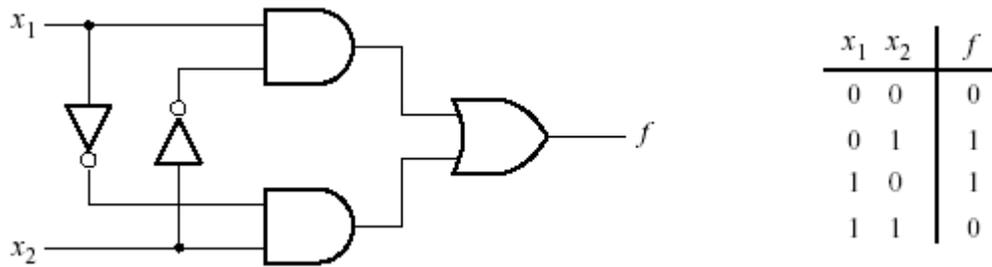
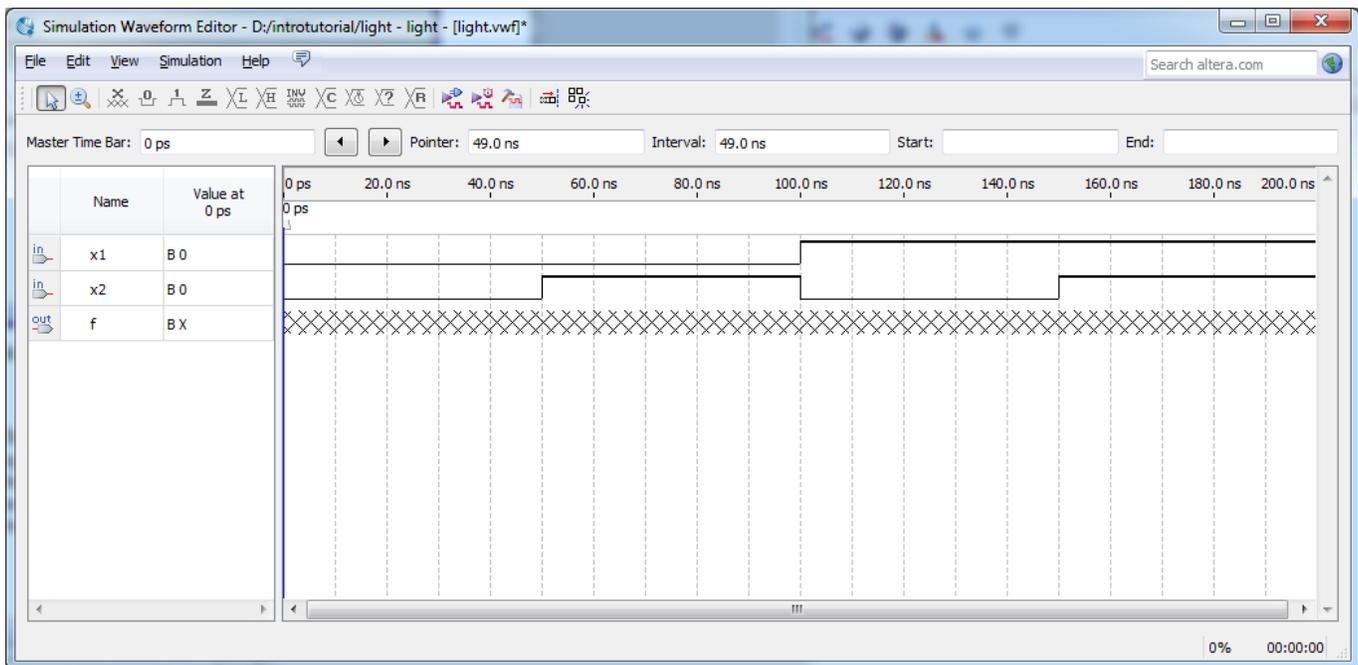

Figure 9. The light controller circuit.
Figure 29. Setting of test values.
As a design example, we use the two-way light controller circuit shown in Figure 10. The circuit can be used to control a single light from either of the two switches, x_1 and x_2 , where a closed switch corresponds to the logic value 1. The truth table for the circuit is also given in the figure. This is just an Exclusive-OR function of the inputs x_1 and x_2 , but we will specify it using the gates shown in Figure 9.
To simulate the behavior of a large circuit, it is necessary to apply a sufficient number of input valuations and observe the expected values of the outputs. In a large circuit the number of possible input valuations may be huge, so in practice we choose a relatively small (but representative) sample of these input valuations. However, for our tiny circuit we can simulate all four input valuations given in Figure 9. We will use four 50-ns time intervals to apply the four test vectors. We can generate the desired input waveforms as follows. Click on the waveform name for the $x1$ node. Once a waveform is selected, the editing commands in the Waveform Editor can be used to draw the desired waveforms. Commands are available for setting a selected signal to 0, 1, unknown (X), high impedance (Z), don't care (DC), inverting its existing value (INV), or defining a clock waveform. Each command can be activated by using the **Edit > Value** command, or via the toolbar for the Waveform Editor. The Edit menu can also be opened by right-clicking on a waveform name.
Set $x1$ to 0 in the time interval 0 to 100 ns, which is probably already set by default. Next, set $x1$ to 1 in the time interval 100 to 200 ns. Do this by pressing the mouse at the start of the interval and dragging it to its end, which highlights the selected interval, and choosing the logic value 1 in the toolbar. Make $x2 = 1$ from 50 to 100 ns and also from 150 to 200 ns, which corresponds to the truth table in Figure 9. This should produce the image in Figure 29. Observe that the output f is displayed as having an unknown value at this time, which is indicated by a hashed pattern; its value will be determined during simulation. Save the file.
Having downloaded the configuration data into the FPGA device, you can now test the implemented circuit. Make sure that the RUN/PROG switch is at the RUN position. Try all four valuations of the input variables x_1 and x_2 , by setting the corresponding states of the switches SW1 and SW0. Verify that the circuit implements the truth table in Figure 9. If you want to make changes in the designed circuit, first close the Programmer window. Then make the desired changes in the VHDL design file, compile the circuit, and program the board as explained above.